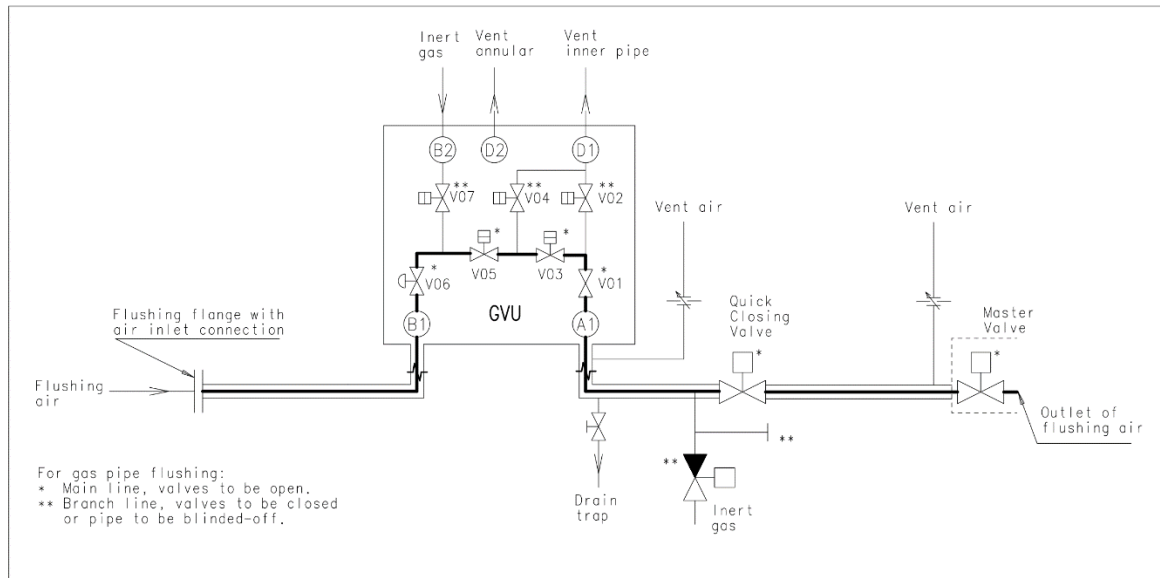

Figure 2: Flushing instruction for the welded piping after the GUV-ED assembly
2. Open the valves on the main line of the inner pipe as marked with "*" in Figure 2.
3. Shut off the valves or blind off the pipe on the branched lines of the inner pipe as marked with "**" in Figure 2.